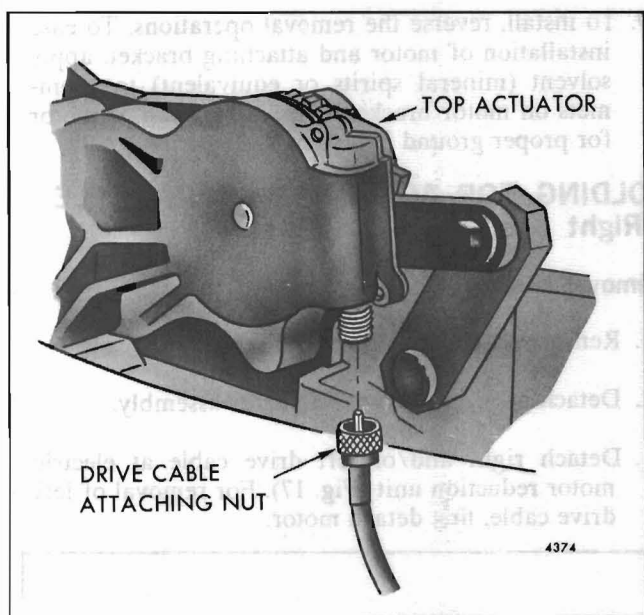

Fig. 18-Drive Cable To Top Actuator Attachment
- Disconnect drive cable from actuator assembly (Fig. 18).
2. Disconnect drive cables at each top actuator (Fig. 18).
2. Disconnect both drive cables from top actuator units (Fig. 18).
2. Disconnect drive cables from both top actuator units (Fig. 18).